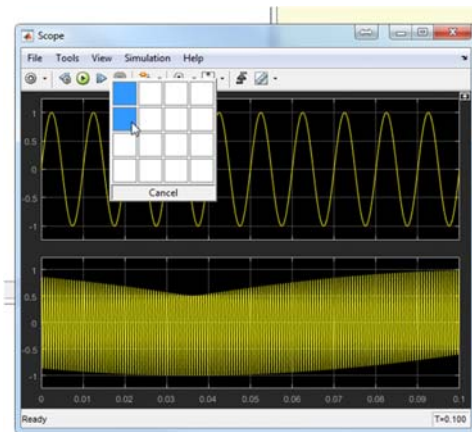

Figure 1: Multiple Input Scope
- III. Display two signals in two windows as shown in Figure 1
Note: if any of the signals is not pure sinusoidal (for example in Figure 1, 9900 Hz signal is disordered), change max step size from auto to very small number ($1e-6$). Model configuration parameter \rightarrow max step size